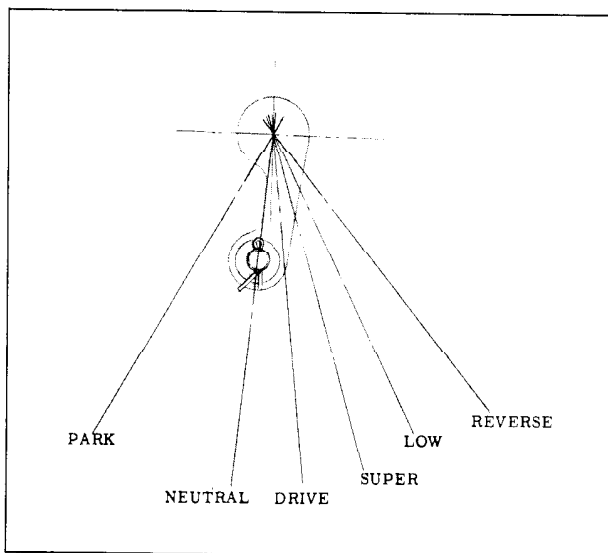

Fig. 12-8 Transmission Manual Lever Detent Positions
2. Loosen both lock nuts on the manual rod and place the transmission manual lever in the neutral position. (Fig. 12-8)